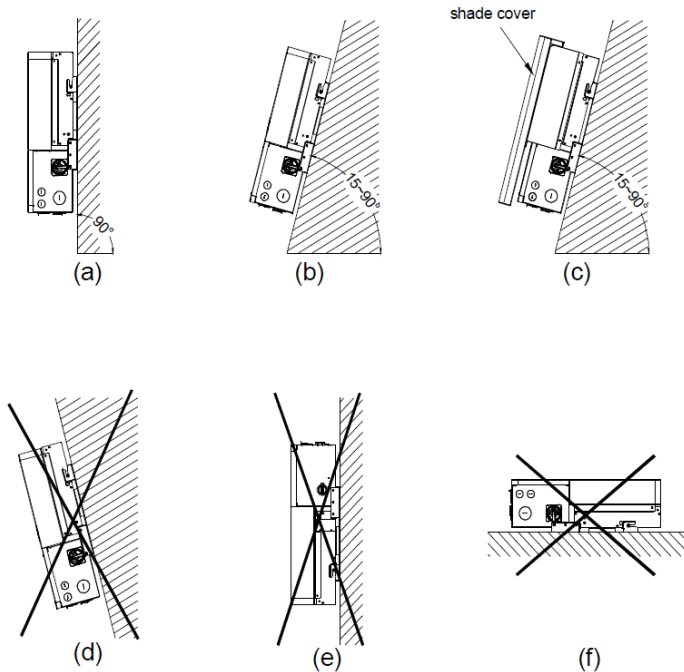

Figure 3-2 Inverter Mounting Options
3.2.2 Installation Method (see Figure 3-2)